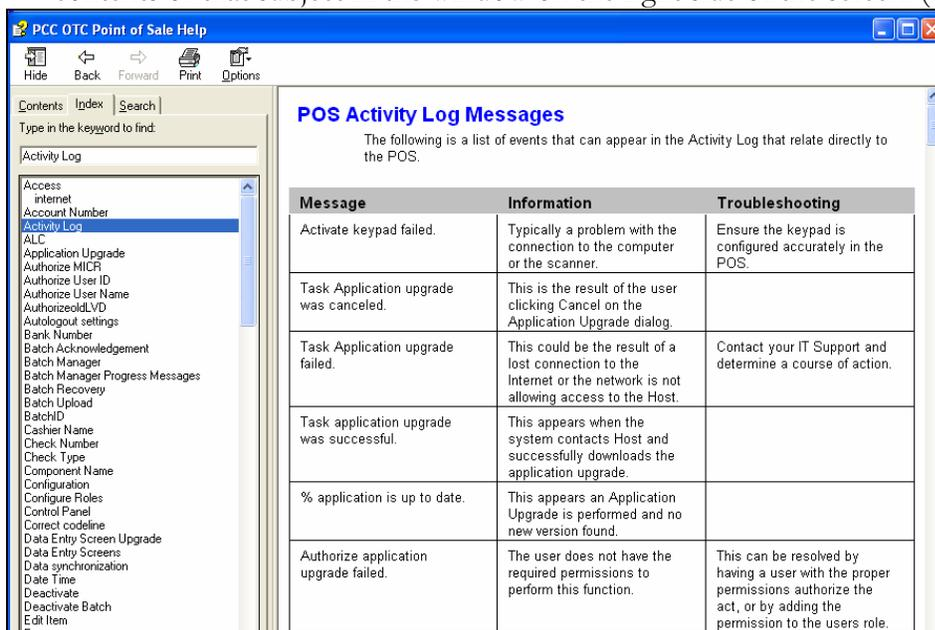

Figure 4.25
- Index – displays the index of items on the left side of the screen. The user can click to highlight an item on the left then click the 'Display' button at the bottom of the window to display the contents of that subject in the window on the right side of the screen. (Figure 4.25)